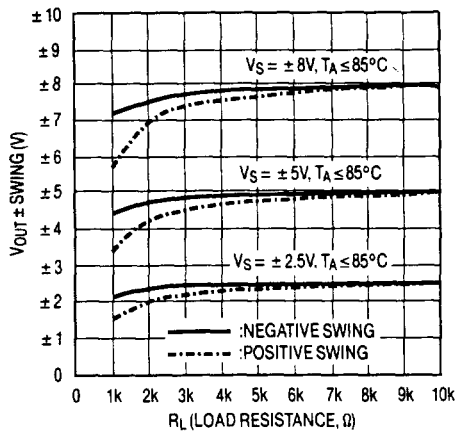

Figure 8. Output Voltage Swing vs Load
sumes 0.5mA and still provides 1.8MHz gain bandwidth product and 3V/μs slew rate. This, combined with almost distortionless swing to the supply rails, Figure 8, makes the LTC1051/LTC1053 op amps nearly general purpose. To further expand this idea, the “aliasing” phenomenon, which could occur under AC conditions, should be described and properly evaluated.
- When the frequency, f_{IN} , of the input signal is less than f_{CLOCK} , the alias signal(s) amplitude(s) directly scale with the amplitude of the incoming signal. The output "signal to alias ratio" cannot be increased by just boosting the input signal amplitude. However, when the input AC signal frequency well exceeds the clock frequency, the amplitude of the alias signals does not directly scale with the input amplitude. The "signal to alias ratio" increases when the output swings closely to the rails, Figures 5B, 7. It is important to note that the LTC1051/LTC1053 op amps under light loads ($R_L \geq 10k\Omega$) swing closely to the supply rails without generating harmonic distortion, Figure 8.
- For gain higher than -1 , the "signal to alias" ratio decreases at an approximate rate of $-6dB$ per decade of closed loop gain Figure 8.